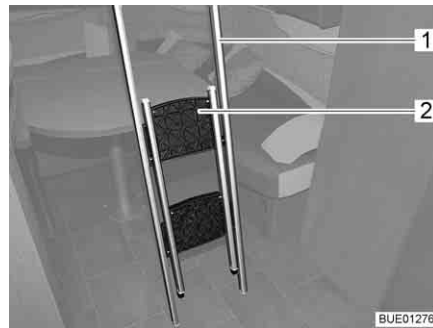
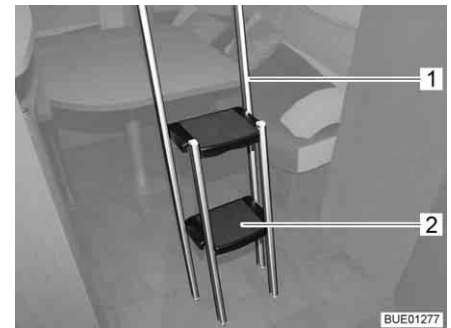

Fig. 107 Access ladder, folded in
Fig. 108 Access ladder, folded out
- Hook access ladder (Fig. 106,5 or Fig. 107, 1) to the pull-down bed by attaching the two hooks (Fig. 106,4) in the holding bar (Fig. 106,3).
- Grasp the upper edge of the folded-up part (Fig. 107,2) of the access ladder and unfold it so that all four feet are securely on the ground (Fig. 108).
- Fold in steps (Fig. 108,2).
- Hang the access ladder (Fig. 108,1) from the holding bar on the pull-down bed.